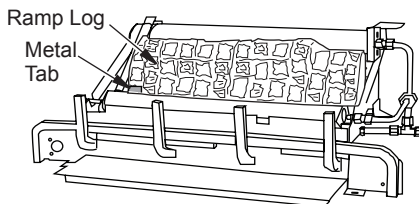

Figure 34 - Installing Fiber Ramp Log
1. Place fiber ramp log in center of chassis as shown in Figure 34. The fiber ramp log can be identified by the shape and much lighter weight when compared to the other logs. The log must sit flat on the black sheet metal and behind the left metal tab as shown. Make sure the side marked “BOTTOM” is setting down.